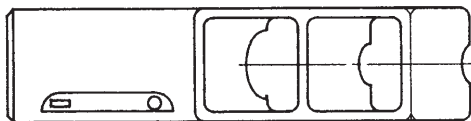

Fig. 7 – Muzzle brake
- pad (1) serves as the rifle rest against the shooter's shoulder during aiming and firing,
- wooden rest (2) contains holes for accomodation of the springs which absorb the recoil force in firing,
- guide (3) connects the stock with the receiver and handgrip. The lower guide is held by hand during firing,
- spring (4) serves to absorb the recoil force in firing and returns the barrel with the receiver and handgrip into the foremost position after firing,
- screw (5) is used to adjust the spring and to connect the stock to the guides.
11. The muzzle brake (Fig. 7) is used to reduce the recoil energy of the weapon. It is located at the barrel muzzle attached to it by its threaded part and secured in horizontal position in relation to the rifle by means of its securing pin.